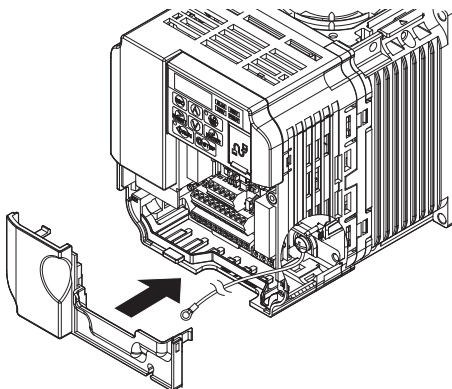
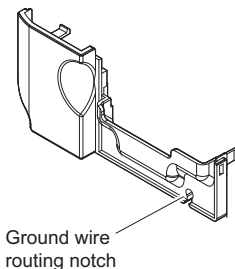

Figure 14 Reattach the Terminal Cover
Figure 15 Terminal Cover Ground Wire Notch
- 10.** On models CIMR-V□BA0006□ to BA0018□, 2A0008□ to 2A0069□, and 4A0001□ to 4A0038□, reattach the terminal cover. Refer to Figure 14 and Figure 15 for drive models CIMR-V□BA0006□ to BA0018□, 2A0008□ to 2A0020□, and 4A0001□ to 4A0011□, which require routing the ground wire through the provided notch when reinstalling the terminal cover.